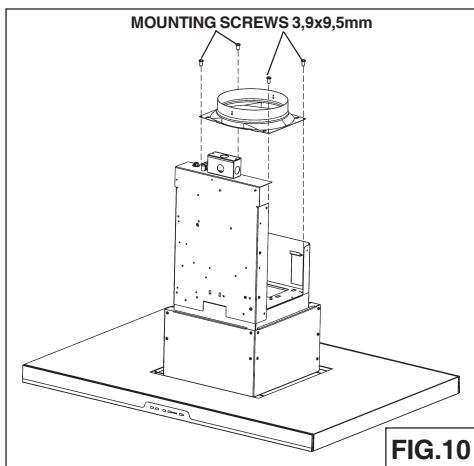

FIG.10
3. Fix the damper kit onto the hood using 4 screws (3.9x9.5mm) located in the Hardware Package (Fig.10).